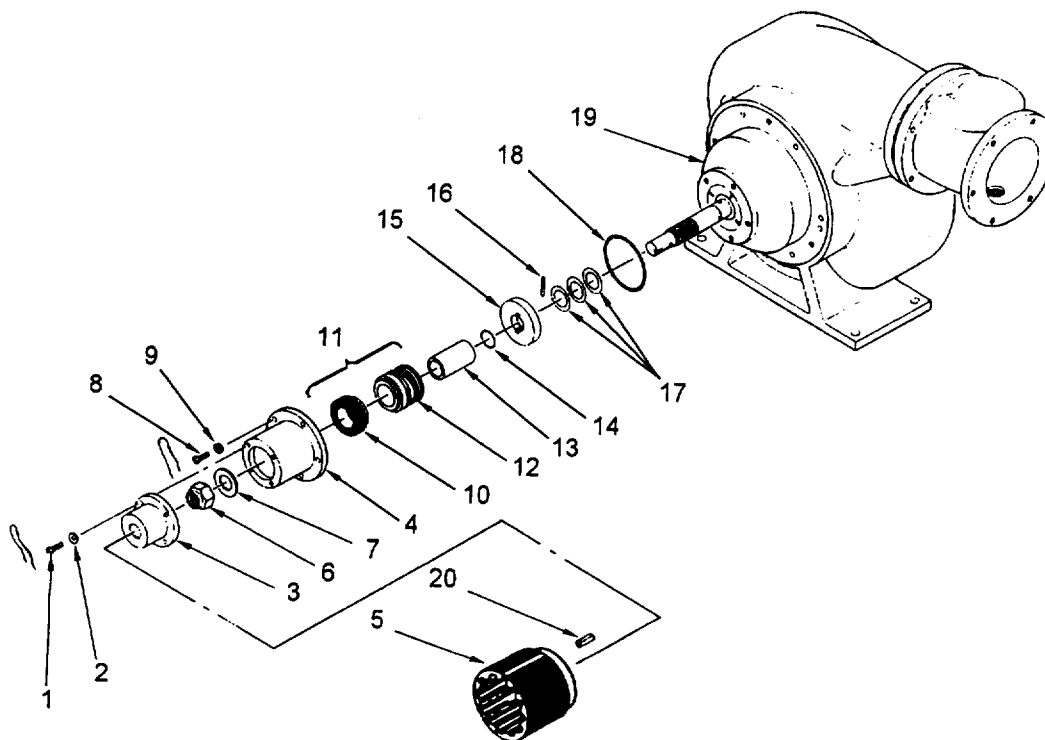

Figure 5-4. Shaft Seal Assembly/O-Ring Replacement
- (1) Lightly lubricate O-ring (6) with petrolatum and install in inlet O-ring groove. Do not allow the O-ring to twist or roll during installation.
- (2) Install inlet in pump.
- (a) Install the inlet (1) by aligning the six retaining screw holes and the jack bolt holes with corresponding holes in the housing body (2). Tap inlet lightly around circumference with rubber mallet or heel of palm to seat inlet in housing. If inlet does not install easily, install the 1/4-28 x 1 1/2 in. jack bolts in the inlet and adjust bolts until inlet is parallel to impeller housing, then back out jack bolts alternately 1/2 turn at a time until mounting screws (3) can be started.
- (b) Lubricate with anti-seize compound and loosely install the six socket head screws (3), lock washers (4) and flat washers (5) in the inlet (1). Tighten in a crossing pattern, one or two turns at a time, to fully seat the inlet in the housing (2). When all six screws are snug, tighten alternately until secure.
5.4.2 Replace Fuel Transfer Pump Shaft Seal Assemble/O-Rings. (Refer to figure 5-4.)